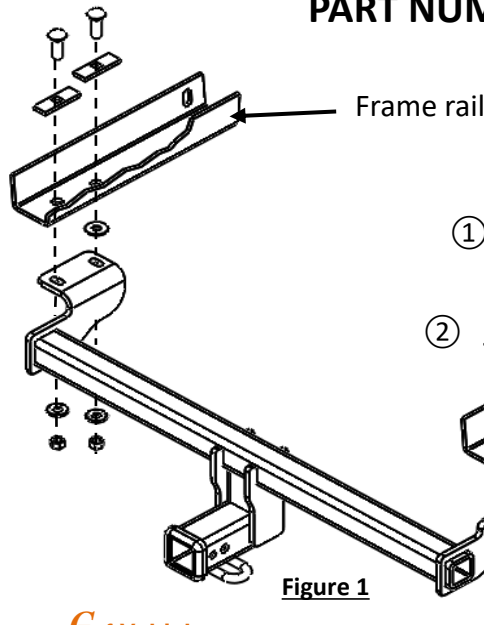

Figure 1
- Enlarge access hole** - Using a die grinder, enlarge the access holes big enough to fit 1/2" carriage bolt ①, both sides, see **Figure 1**.
- Install hitch** - Using tape, secure the flat washer ③ at front attachment holes on frame rails, see **Figure 1**. Using pull wires ⑥ feed carriage bolts ① and spacers ② into the vehicle frame rails through the access holes, see **Figure 1 & 5**. Leave pull wires attached. Raise the hitch and feed pull wire previously installed through hitch bracket slot. Remove pull wires and loosely install conical washer ④ and hex nut ⑤ to hitch, see Figure 1.
3. **Enlarge access hole** – Using a die grinder, enlarge the access holes big enough to fit 1/2" carriage bolt ①, both sides, see **Figure 1**.
5. **Install hitch** – Using tape, secure the flat washer ③ at front attachment holes on frame rails, see **Figure 1**. Using pull wires ⑥ feed carriage bolts ① and spacers ② into the vehicle frame rails through the access holes, see **Figure 1 & 5**. Leave pull wires attached. Raise the hitch and feed pull wire previously installed through hitch bracket slot. Remove pull wires and loosely install conical washer ④ and hex nut ⑤ to hitch, see Figure 1.